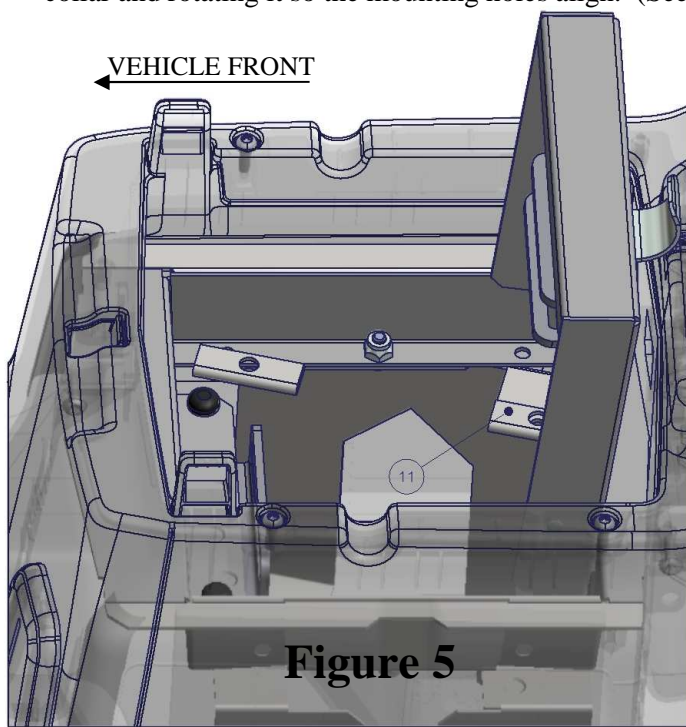

Figure 5
8. Move the #11 Right Brace into position by slipping the hem over the lower horizontal flange of the Console Insert collar and rotating it so the mounting holes align. (See Figures 5 and 6)